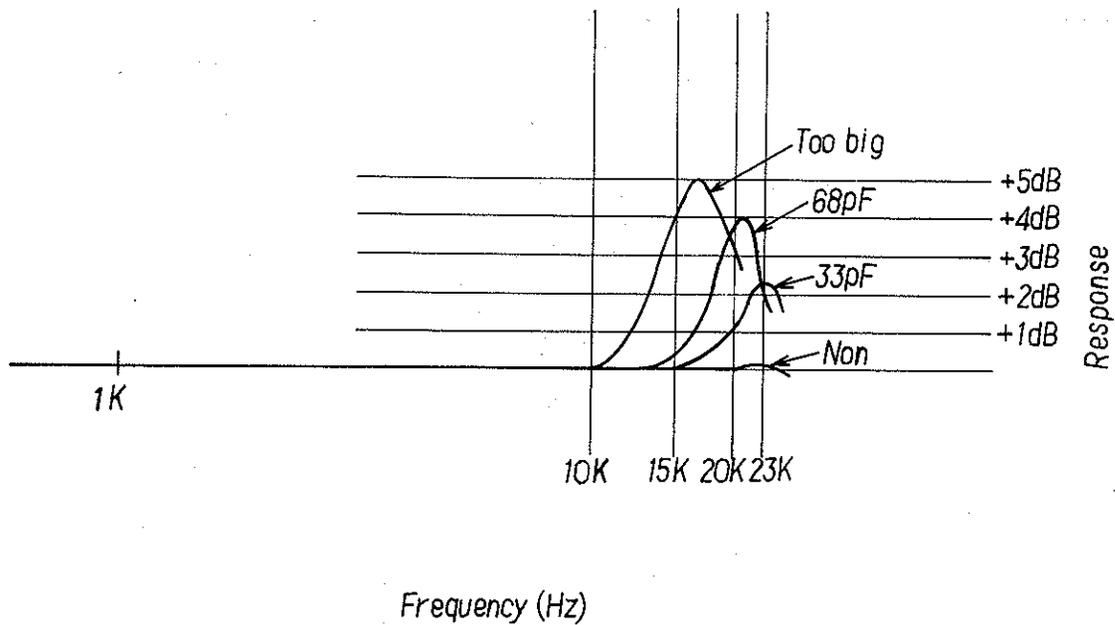

Fig.3 Compensation of Playback High Frequency Response
- h. If 15KHz at e shows the value within  $\pm 2\text{dB}$  and 20KHz being less than  $-3\text{dB}$ , check shall be made on C101, 201 with 0 — 220PF. Refer to Fig.3.